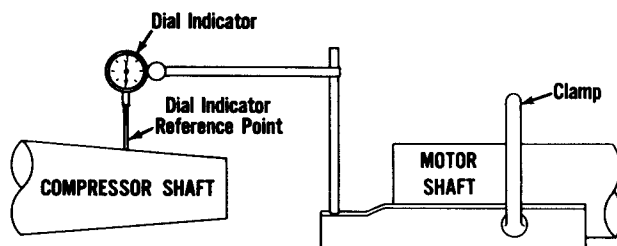

FIGURE 4
1. Mount dial indicator on the motor shaft with the stem of the dial indicator riding on the circumference of the compressor shaft just behind the keyway. (Fig. 4).